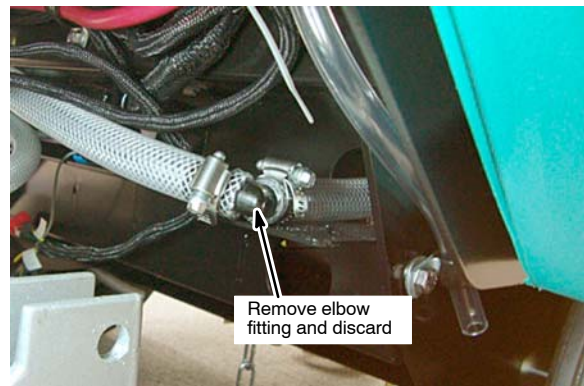

Fig. 25
5. Remove the elbow fitting from the solution tank hose as shown (Fig. 25).